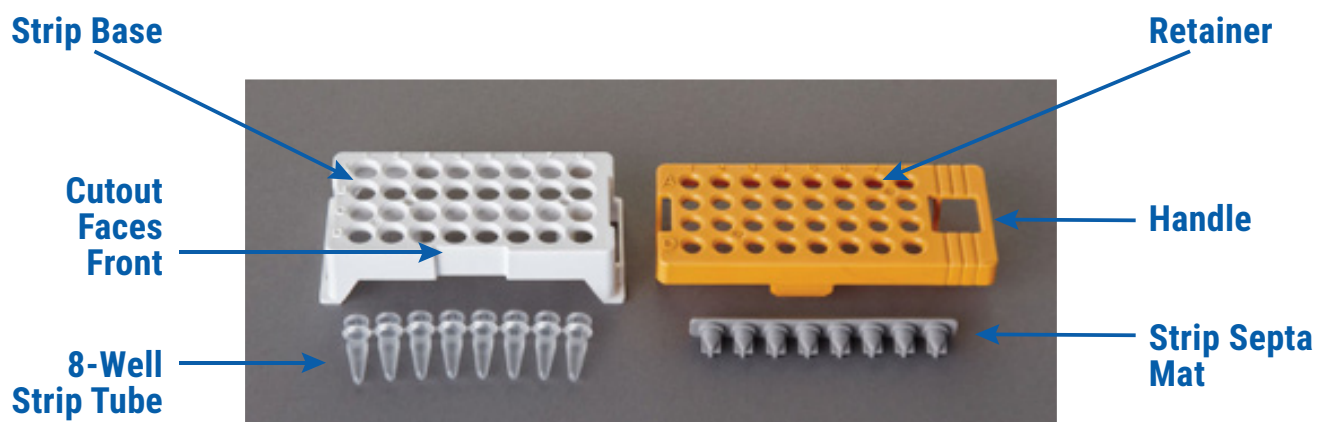

Figure 1. Assembling the Spectrum Compact Strip Base and Retainer.
1. Place the 8-well strip tube into the strip base in Lane A with the samples in positions 1–4 (Figure 1).